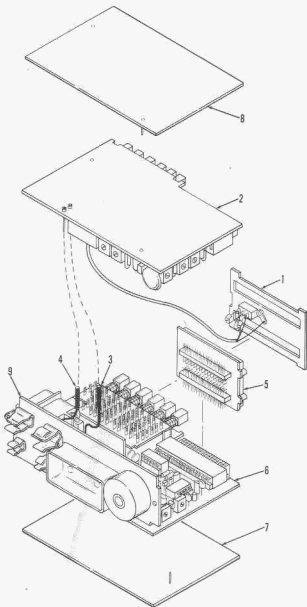
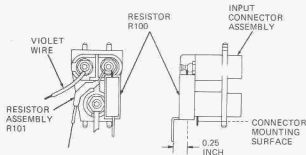

Figure 2-3. Printed Circuit Boards Removal
Figure 2-4. Input Connector Assembly Removal
a. Removal. Remove the circuit boards in accordance with fig. 2-3 and the following procedures:
- (1) Unsolder and disconnect violet wire (fig. 2-4) from lug of top, inner fuse clip on rear circuit board.
- (2) Pull free end of violet wire through fuse clip eyelet.
- (3) Unsolder leads of resistors R100 and R101 at range circuit board (do not disconnect leads at this time).
- (4) Unsolder the single lug of input connector assembly at range circuit board; then lift input connector assembly with attached parts from component side of range circuit board.
- (5) Unsolder and remove the violet wire and resistors R100 and R101 from top lugs of input connector assembly.
- (1) Connect one lead of resistor assembly R101 to input connector lug shown in fig. 2-4.
- (2) Form a 0.25 inch offset in one lead of resistor R100; then connect the other lead to indicated input connector lug. Be sure the 0.25 inch portion of R100 lead does not extend below connector mounting surface. Solder resistor leads to input connector lug.
- (3) Connect and solder one end of violet wire to remaining top lug of input connector.
- (4) Pass free leads of resistors R100 and R101 through respective holes in component side of range circuit board; then press lugs of input connector assembly into mounting holes in range circuit board.
- (5) Solder leads of resistors R100 and R101, and single metallic lug of input connector assembly, to range circuit board.
- (6) Pass free end of violet wire through eyelet of top, inner fuse clip on rear circuit board. Then connect and solder the violet wire to the fuse clip lug.
e. Installation. Install the circuit boards in accordance with fig. 2-3 and the following procedures: